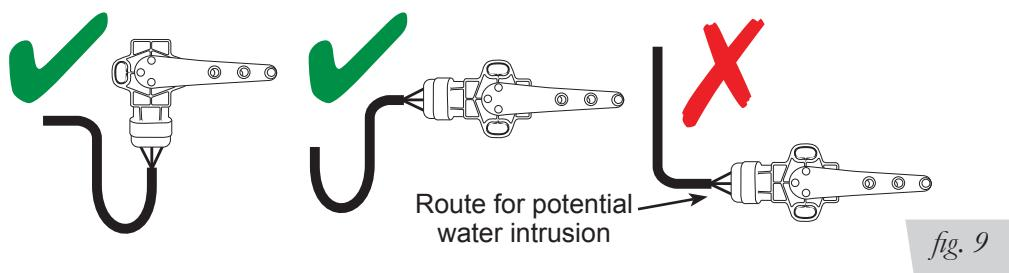

fig. 9
*Keep proper drip loops and use proper bend radius for wire bundles (fig. 9).*